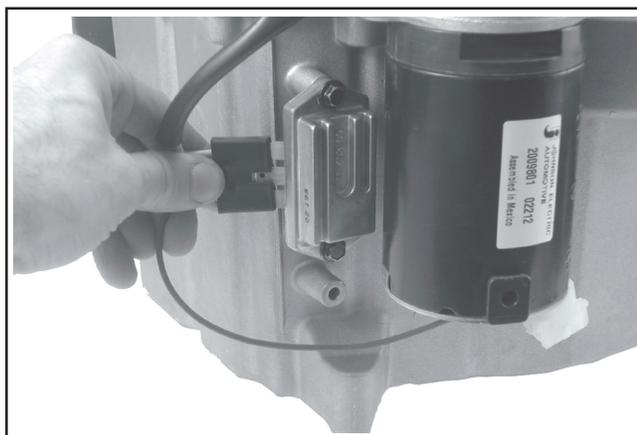

Figure 10-69. Installing Rectifier-Regulator.
1. Using the two M6 screws, mount the rectifier-regulator onto the crankcase bosses, with the cooling fins out. See Figure 10-69. Torque the screws to **6.0 N-m (55 in. lb.)** into new as-cast holes, or **4.0 N-m (35 in. lb.)** into used holes.